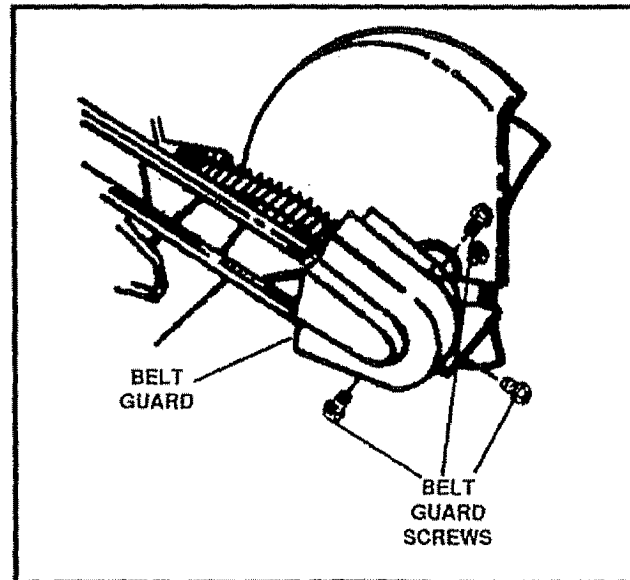

FIG. 11
- Remove the three (3) screws from the belt guard (See Fig. 11).